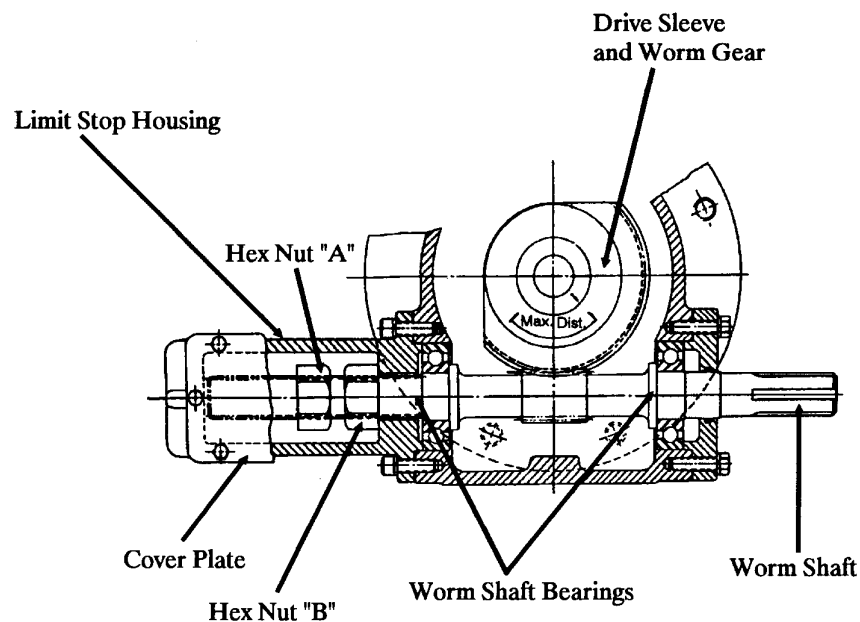

Figure 2-54 Hex Nut Type Stop (HBC-0 Through 3)
12. To set up gearbox, do the following: Refer to Figure 2-54